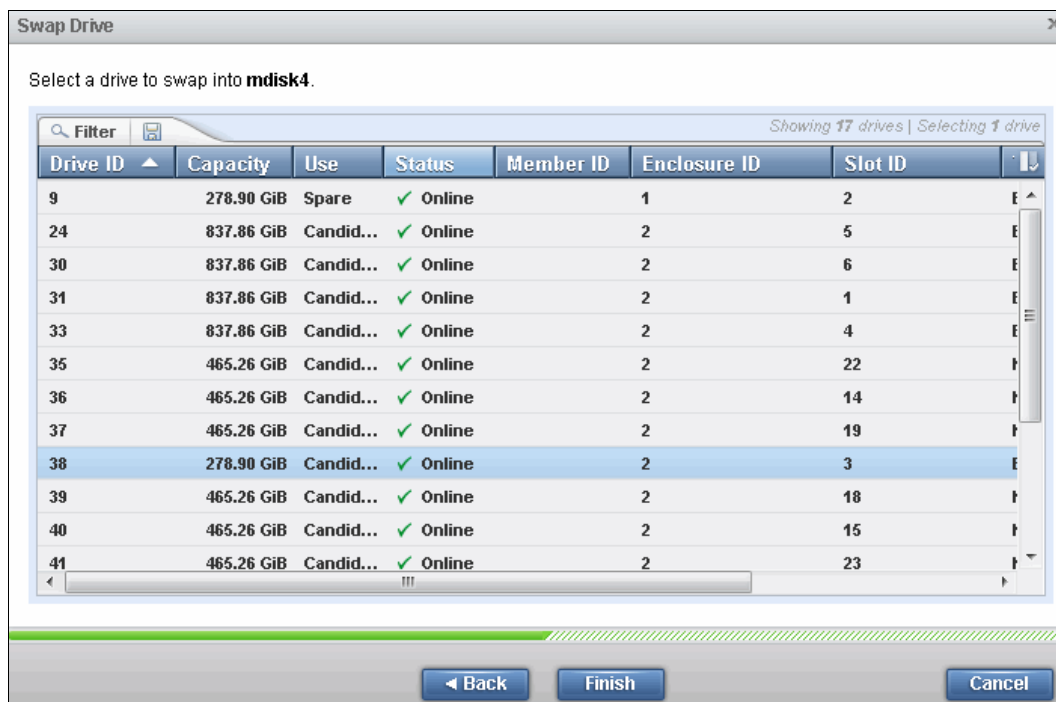

Figure 7-46 MDisk swap drive: Step 2
- iii. In step 2 (as shown as Figure 7-46), a list of suitable drives is presented. One drive must be selected to swap into the MDisk. Click **Finish**.